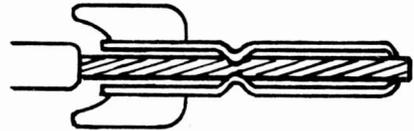

Fig. 2: Coaxial plug inner connector with pin pinched at the base to grip the inner conductor.
Fig. 2: Making the most of the 16mm. gauge. (a) Double-perforated 16mm. film—shaded area indicates loss of picture area when projected on a 1-85:1 cinema screen. (b) Single-perforated 16mm. film with sound track omitted, showing (shaded) the additional area available for photographing a 1-65:1 frame for television or a 1-85:1 frame for cinema release.
The real remedy of course is to solder the connection, but if for any reason this should prove inconvenient there is a method whereby a sound mechanical joint can be made without solder. This consists of simply nipping the base of the coaxial centre pin with the conductor inside using a pair of sidecutters. Fig. 2 shows that the walls of the pin grip and cause
The shadowmask tubes shown in 1950 (see Fig. 2) must have been incredibly expensive and could never have formed the basis of a colour receiver whose price would have been within the range of the public, even in the USA. The subsequent development of the tube is a classic study of how intelligent engineering for mass production can make an extraordinarily complex article for low cost. At today's prices a shadowmask tube is cheaper than most 35mm. cameras of any quality yet the standard of construction and complexity is many orders greater. The investment made by RCA in the tube ran into many millions of dollars and the profits took a long time to come: every cent of profit made now has been richly earned.
*Fig. 2: The early shadowmask tube. The glass face of the tube was not the screen but simply a transparent cover sealed to a metal ring on which were mounted the phosphor-dot screen and the shadowmask. This assembly was in turn welded to a metal cone to which the stem carrying the guns was sealed. The whole tube was adapted from the 16in. metal-cone tube used for black-and-white television for a considerable time (the same as the monochrome tube made in the UK at the time by English Electric).*